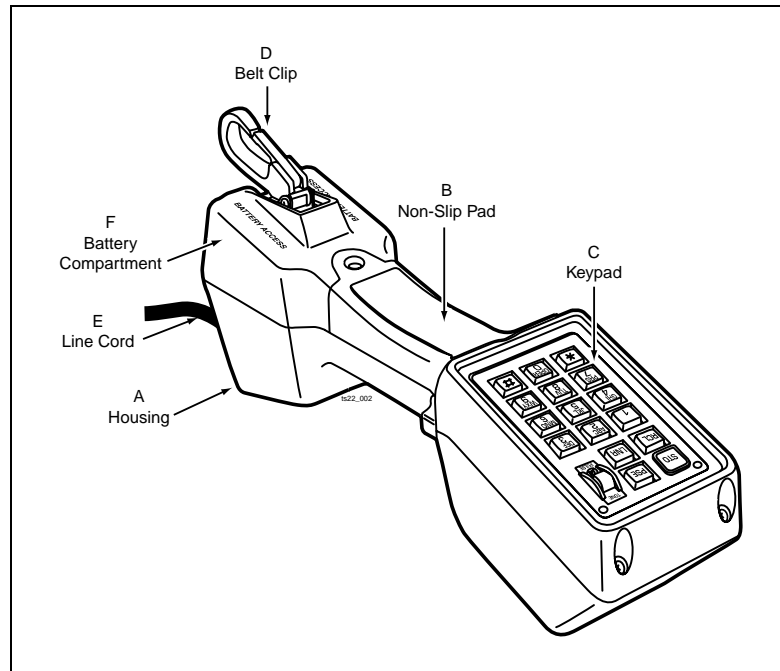

Figure 1. Physical Characteristics
This test set (see Figure 1) often called a “butt-in,” is a self-contained, line-powered, combination handset used by installers, repair technicians, and other authorized personnel for line testing and temporary communications. The TS22AL Test Set provides all the features of the TS22L Test Set, as well as a Speakerphone. Specifications herein apply to TS22L and TS22AL Test Set models, unless otherwise noted.
The housing (A) (see Figure 1) is injection molded of high impact polycarbonate which provides excellent insulating properties. The three-piece case is designed to give rugged service and withstand the rough handling and shocks normally associated with craft tools.